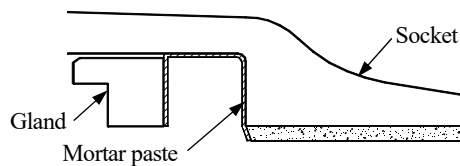

Figure 16 Room coated with cement mortar paste
- 1) Prepare the cement mortar paste (water/cement = 0.35 to 0.4, cement/sand $\geq 2/1$ by mass) then apply the cement mortar paste with brush or by hand to the room between the gland and socket bottom end (see Figure 16).